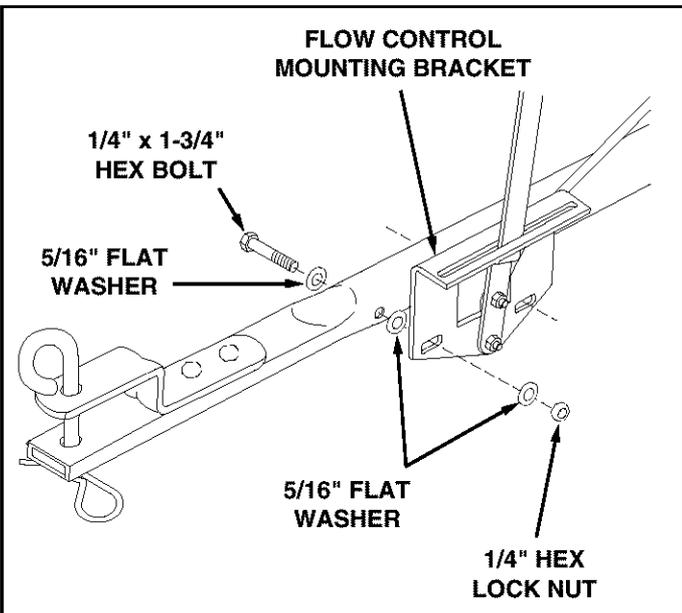

FIGURE 10
- Assemble the flow control mounting bracket to the hitch tube using two 1/4" x 1-3/4" hex bolts, six 5/16" flat washers and two 1/4" hex lock nuts as shown in figure 10. **Do not tighten at this time.**